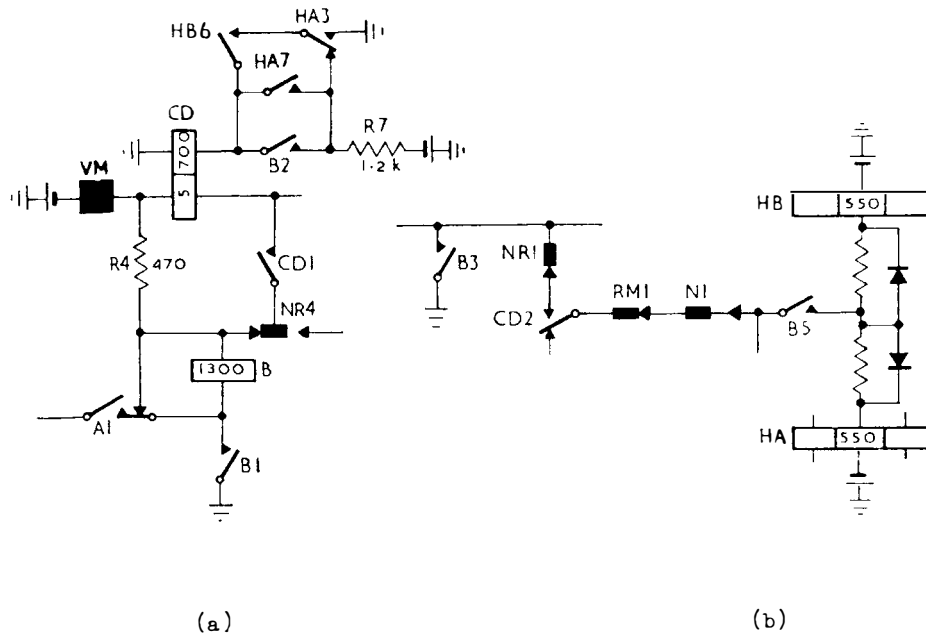

FIG. 4. VERTICAL PULSING.
**3.5 VERTICAL PULSING.** When the selector is first seized, contact A1 operates relay B to the battery behind the vertical magnet. The vertical magnet does not operate in series with B. Relay B holds via B1 and at B2 operates relay CD on its 700 ohm winding. CD1 prepares a low resistance operating circuit for the vertical magnet and CD2 prepares a circuit for relays HA and HB (Fig. 4).